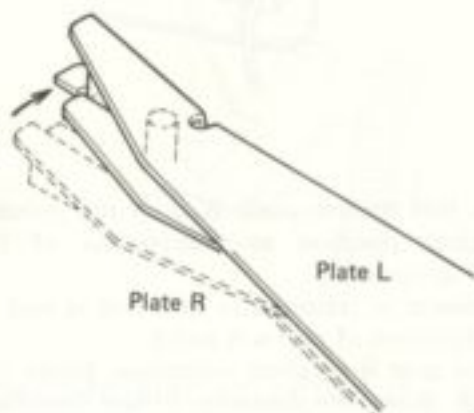

Fig. 20
7. The pin section is gripped by plates R and L (Fig. 20).